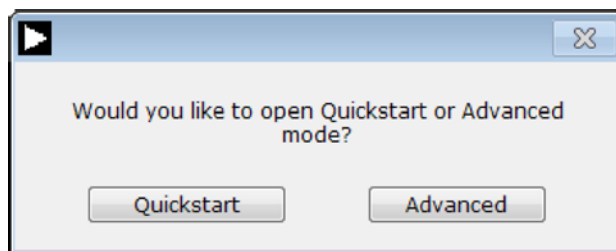

Figure 15. AD411x Eval+ Startup Mode Selection
3. The dialog box shown in Figure 15 appears as a pop-up over Figure 16. Quick start mode provides a simplified version of the software that can be used as a starting point for evaluating the **AD4115**. This mode provides a graphical user interface (GUI) for setting up inputs, as shown in Figure 16, and allows the user to configure the device further by using the blue + configuration buttons (Label 7 in Figure 16).